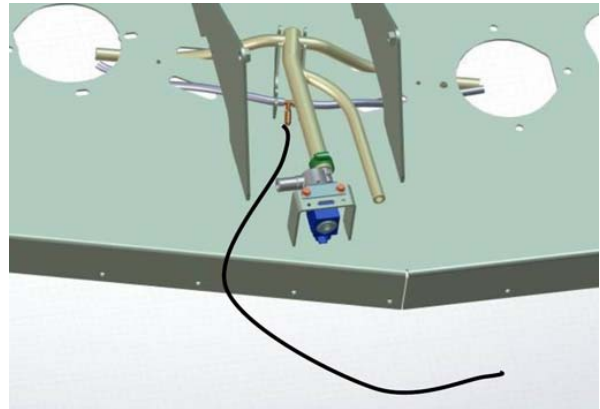

FIG. 16
31. **Machines with disk scrub heads:** Install the items assembled in the previous step onto the scrub head. (Fig. 16)